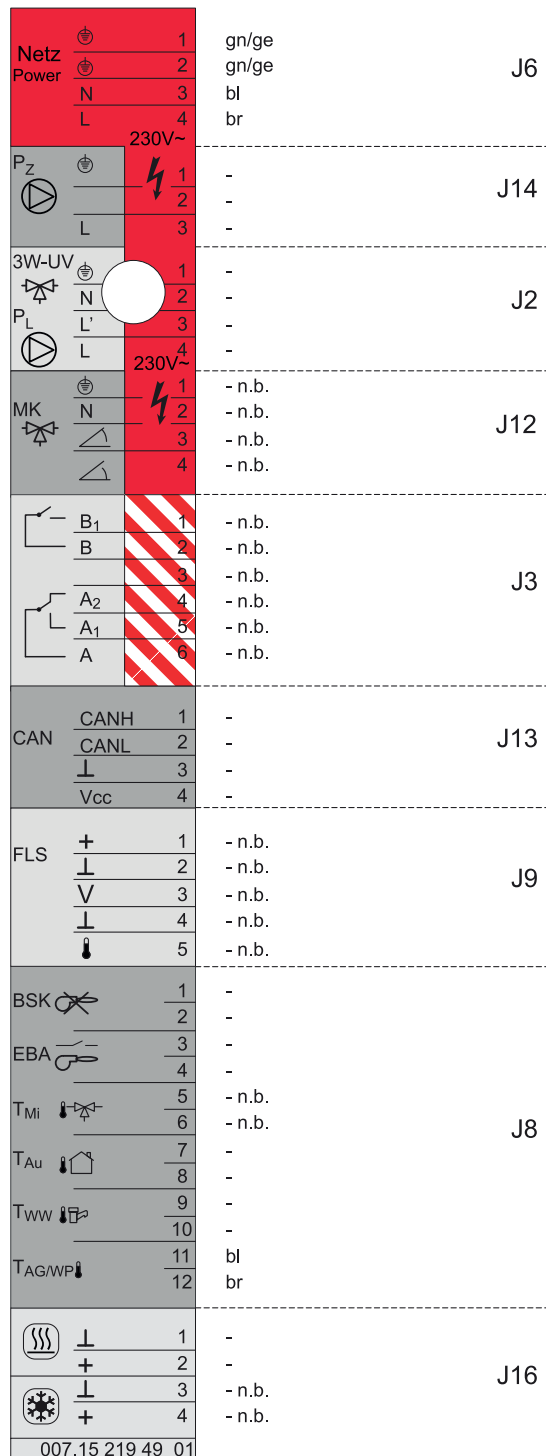

Fig. 4-13 Connection diagram of the circuit board connectors and cable colours of the factory-installed connection cables (for legend see tab. 4-6)
Tab. 4-6 Legend for fig. 4-13
- Connect the sensor line to the sensor plug J8, connection TWW (see fig. 4-13).
the the PCB plug J2 (see fig. 4-13).